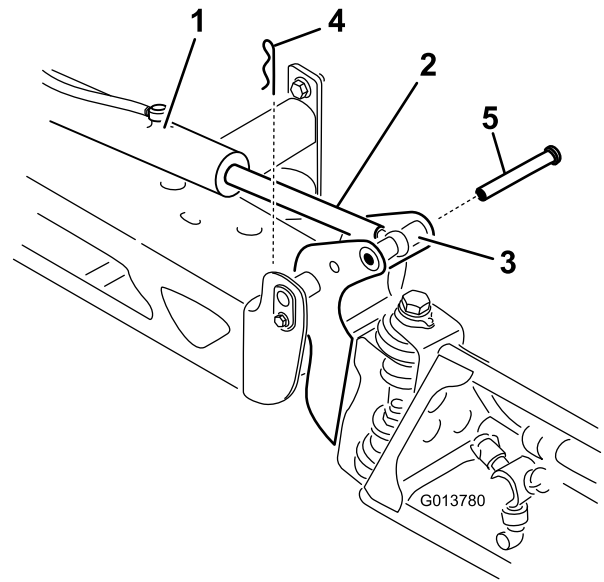

Figure 63
2. Remove the cotter pin from the pivot pin (Figure 63).
3. Lift up on the boom, remove the pin (Figure 63), and slowly lower the boom to the ground.
7. While holding the boom, insert the pin through the boom pivot and actuator rod (Figure 63).